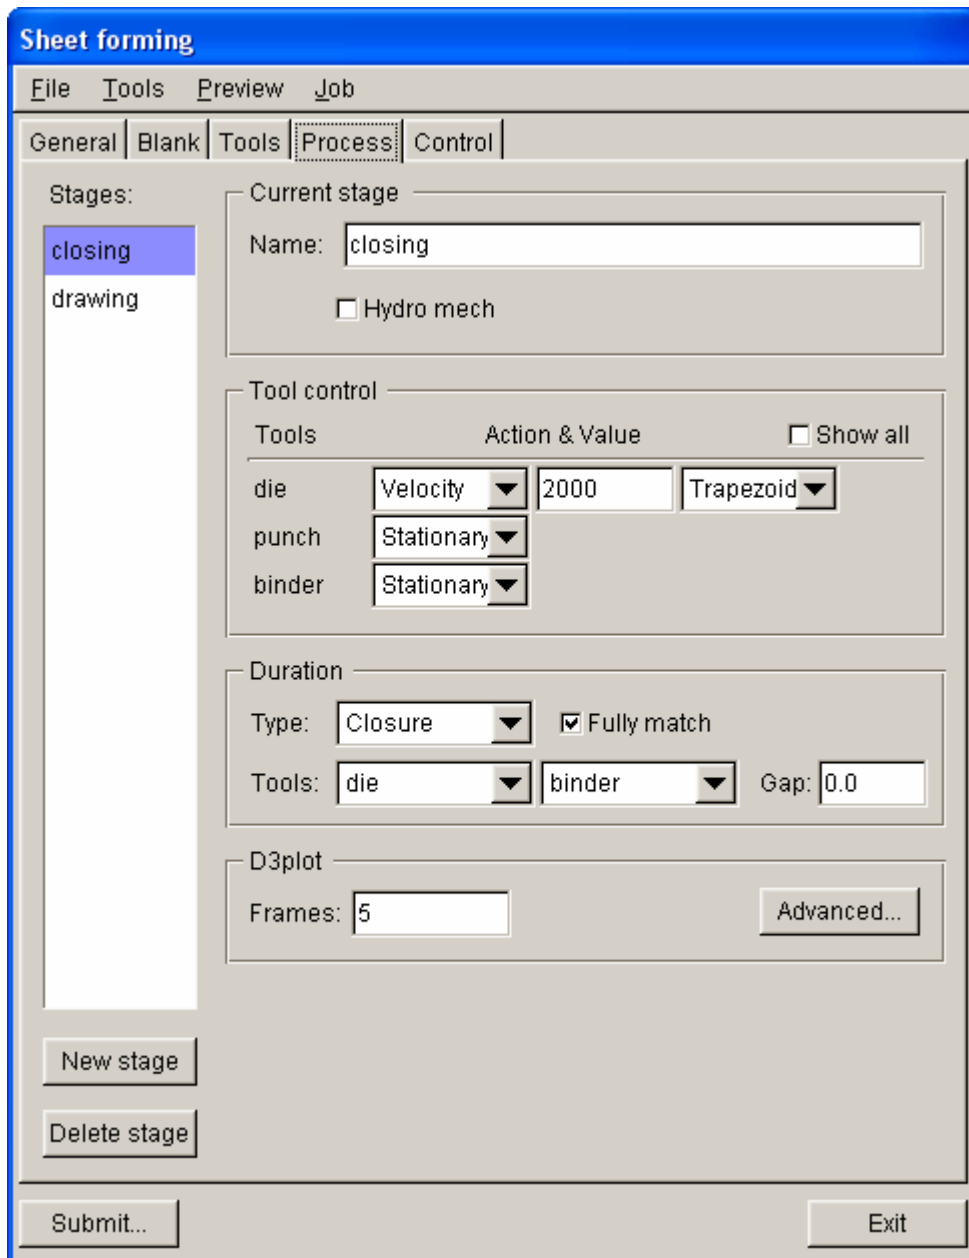

Figure 94: Closing process interface
1. Select **closing** process from the list located at left side of the interface as the current process. See Figure 94.
2. Verify the default setting of **closing** stage is similar to Figure 94.